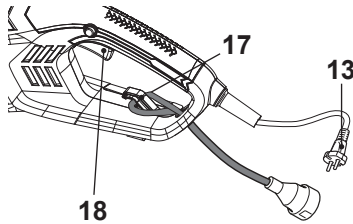

Fig. 15
1. Make sure the on/off switch (18) is not pressed.
2. Double the extension cable, about a foot (30cm) from the end, lead the loop through the hole on the rear safe guard and hook the loop over the cable strain relief (17). Gently pull on the cord to ensure that it is firmly attached at the handle (Fig. 15).